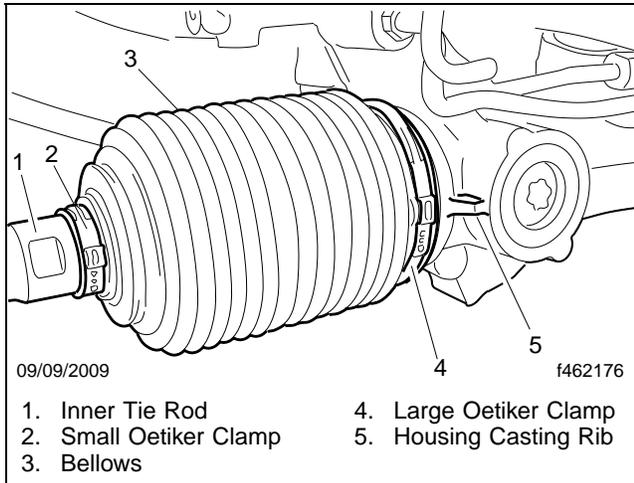

Fig. 26, Oetiker Clamp Alignment
- 11.2 Ensure the large Oetiker clamp is properly seated in the clamp groove on the bellows. Align the large Oetiker clamp ear with the small clamp ear. Both clamp ears should be aligned with the rack housing casting rib. See **Fig. 26**.